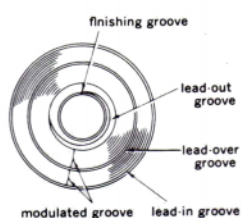

Fig. 2-1
- 2) While playing a disk, the return arm is pushed by the PU plate and moves slowly toward the main gear. When the stylus reaches the lead-out groove (See Fig. 2-1), the return arm will push the clutch guide and the auto clutch will engage with the T.T. gear, then the main gear will start rotating.